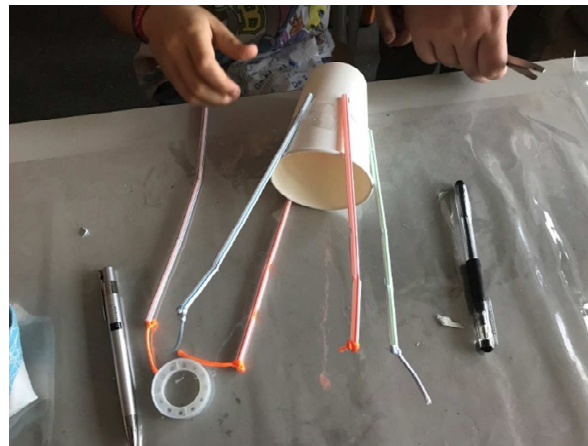

Figure 17: Paper cup with four straws already attached
13. Repeat process 11-12 with the remaining four straws (see Figure 17).